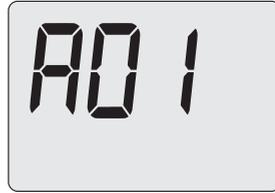

Figure 9.32
- Press 12 and hold until the LCD display shows the code **A01**, indicating entry into “parameter A01” (Figure 9.32).
- Press 12 or 13 (Figure 9.23) to confirm the value entered and return to the list of parameters (Figure 9.32).